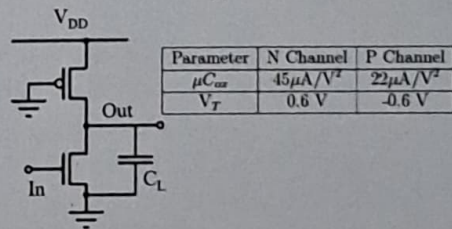

Figure 3
- (b) Consider the circuit shown in Fig. 3. Given that $V_{DD} = 3.3V$ and $C_L = 100$ fF. Find the ratio of (W/L) values for the NMOS and PMOS such that the static output voltage is equal to 0.3V when the input voltage is 3V. [3]